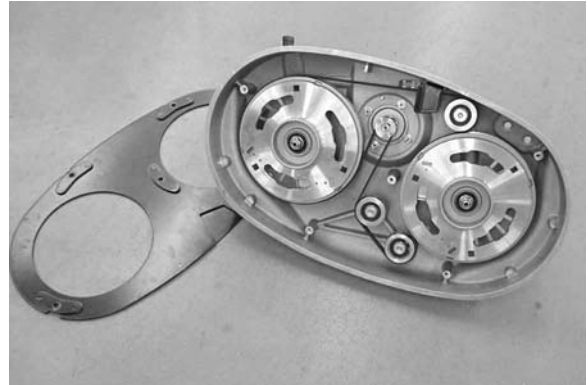

FIG. 70
4. Carefully lay the scrub head bottom side up and remove the belt cover, 10 mm wrench required (Figure 70).